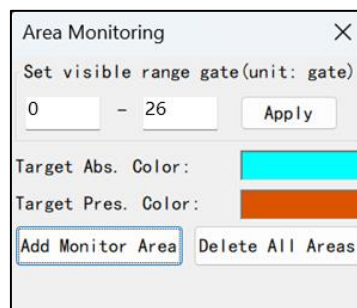

Figure 4-7 Area Monitoring window
Step 2: Click the **Area Monitoring** button, a new window will appear, as shown in Figure 4-7, descriptions of the window are as follows: